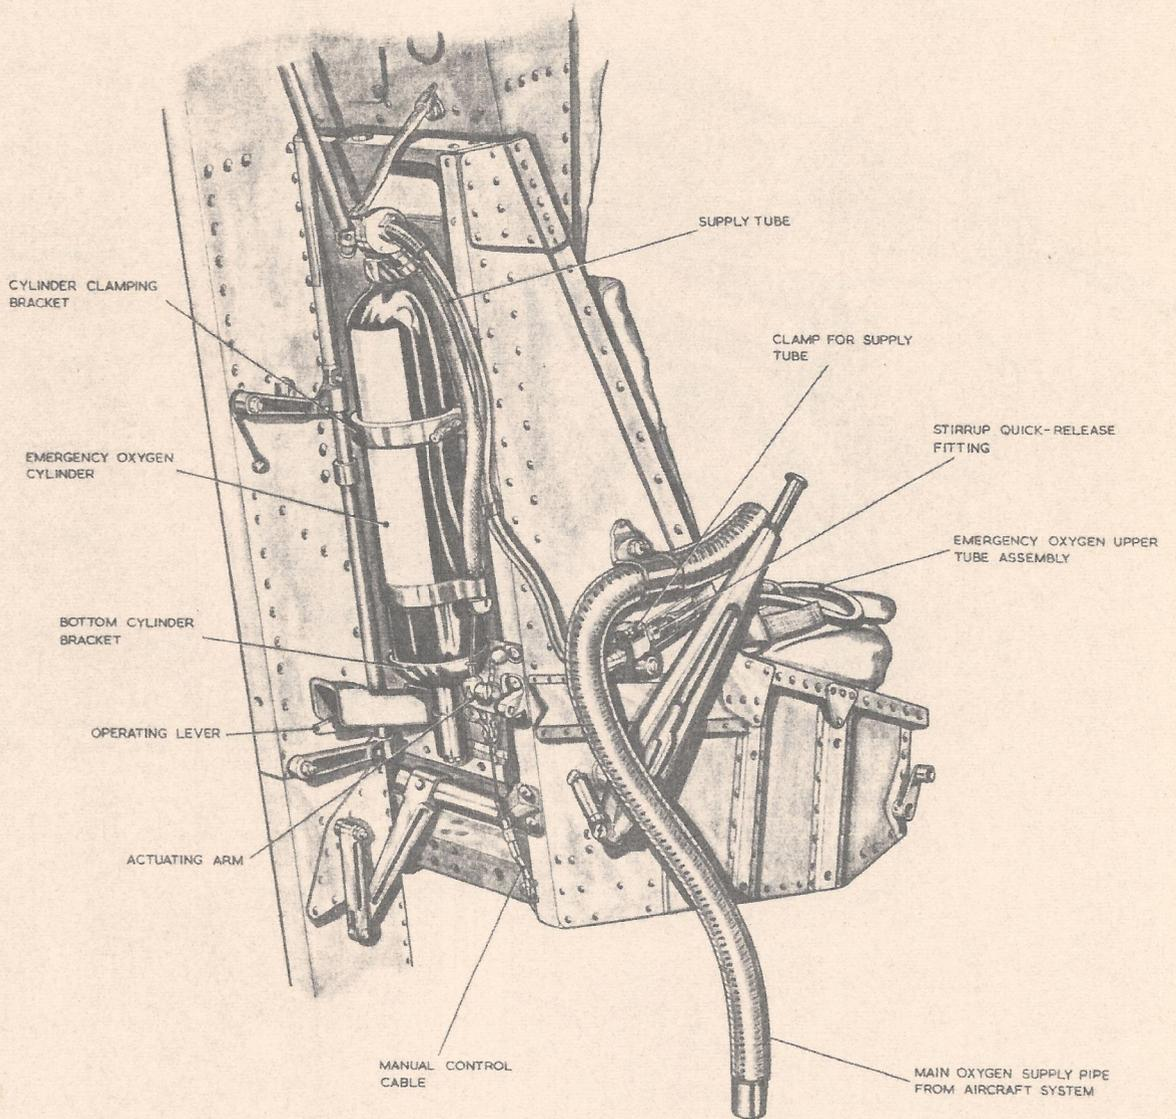

Fig. 3. Arrangement of oxygen supply on seat
- (1) Fit the emergency oxygen cylinder into its clamping brackets on the rear of the seat pan. Secure the supply tube end fitting in the clamp on the starboard side of the seat pan and fit the tube into the spring clip on the rear of the seat pan (*fig. 3*).
- (2) Ensure that the emergency oxygen supply manual control knob on the starboard side of the front face of the seat pan is pushed down fully; connect the operating cable from the cylinder head to the actuating arm on the rear of the seat pan, with the pip pin secured to the seat structure by a short length of chain (*fig. 3*).
- (3) Place the parachute pack on its support bracket on the seat structure, threading the guillotine static line through the grommeted aperture in the back of the seat structure and ensuring that the harness straps are not twisted.
- (4) Open the paddle spreaders and pass the 'O' ring of each parachute pack restraining strap over its appropriate spreader. Ensure that each 'O' ring is pushed well back towards the pivot